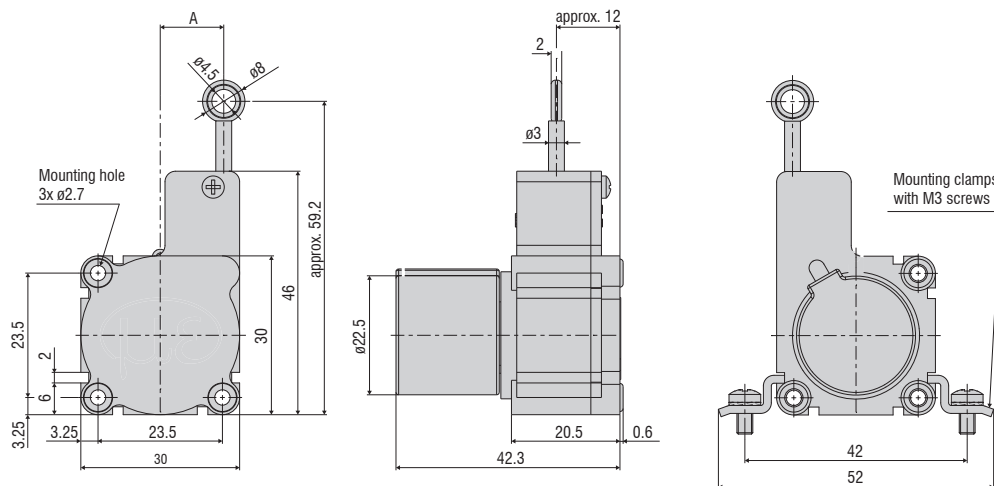

Fig. 3 Dimensional drawing MK30 with potentiometer, dimensions in mm (inches)
- Mount the sensor either with the screws or with mounting clamps according to the specifications in the following table and according to the figures, see Fig. 3 et seq.